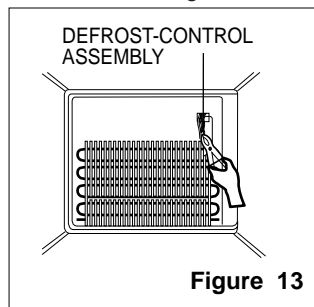

Figure 13
2. Separate the connector with the Defrost Control assembly and replace the Defrost Control assembly after cutting the tie wrap. (Figure 13)